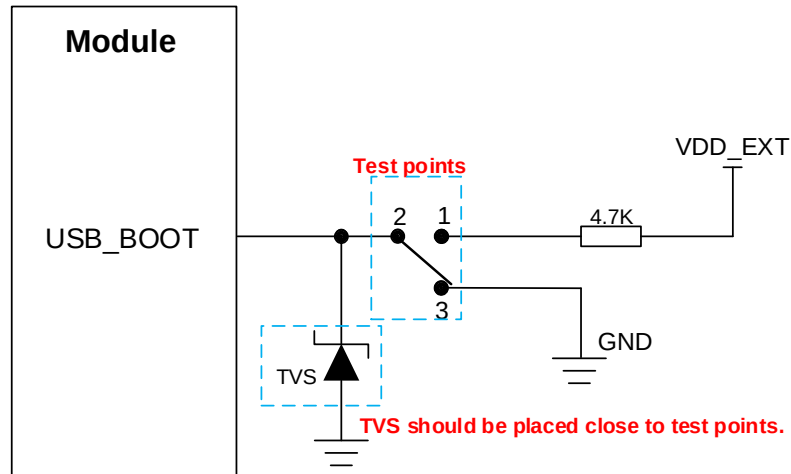

Figure 20: Reference Design of USB_BOOT
3. If you need to manually force the module to enter download mode, directly connect the test points shown in **Figure 20**.